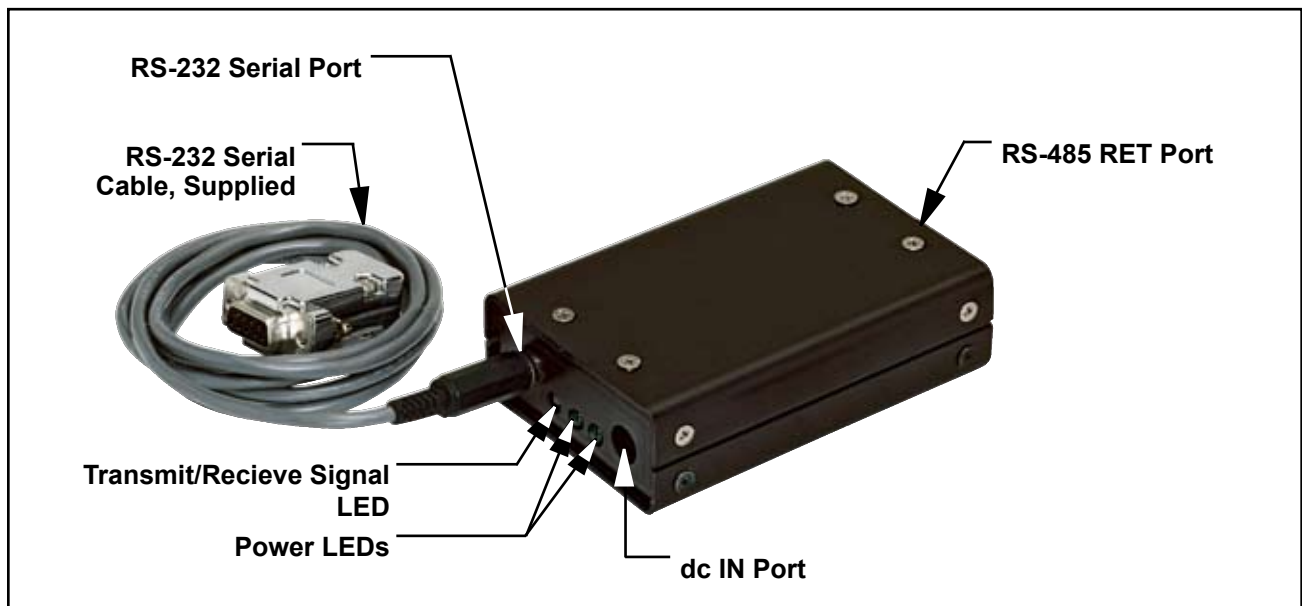

Figure 3-1. ATC200-Lite Controller with RS-232 Serial Cable Attached.
4. Turn on/power up the ATC200-Lite controller. After 2 - 3 seconds, the two power LEDs should display green lights on the front panel of the controller. The power LEDs are located nearest to the dc IN port shown in Figure 3-1.